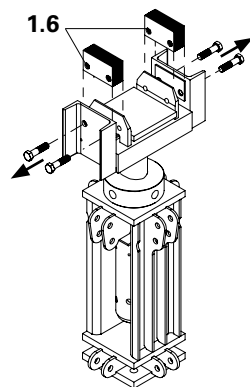

Fig. 31
2. Loosen the four bolts (1.7) of the fork head (1.1) by turning them counter-clockwise, and then remove. (Fig. 31)